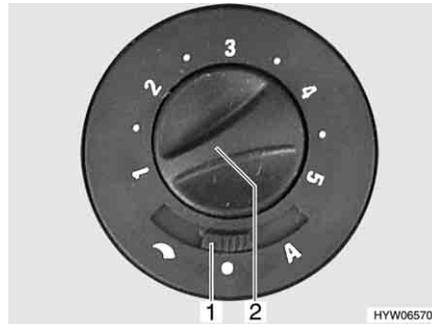

Fig. 128 Operating switch for circulation fan
- Set sliding switch (Fig. 128,1) to "☾" (manual control) or "A" (automatic operation).
- Turn the knob (Fig. 128,2) to set (manual control) or limit (automatic operation) the power of the circulation fan.
- Set sliding switch (Fig. 128,1) to "●" (off).